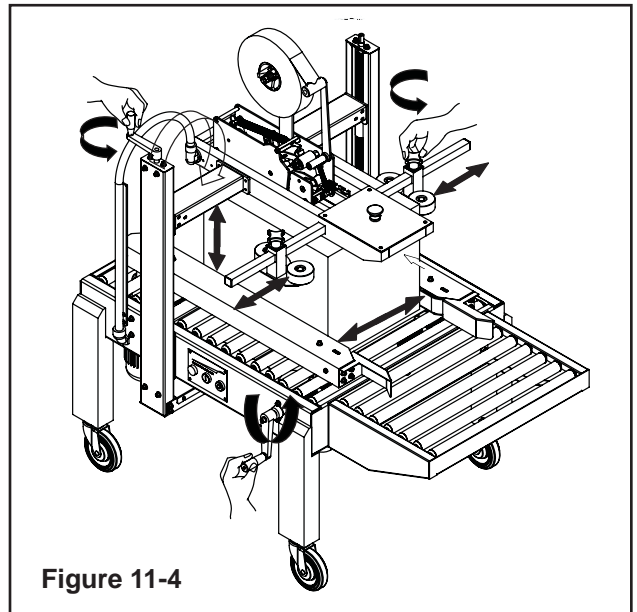

Figure 11-4
2. Loosen the upper taping head clamp thumb screws. Move the clamp away from the taping head (Figure 11-4).